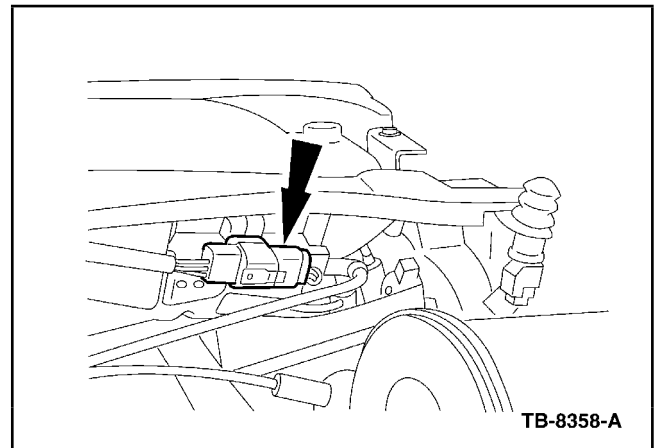

Figure 11 - Article 05-23-7
16. Connect the electrical connector (Figure 11).